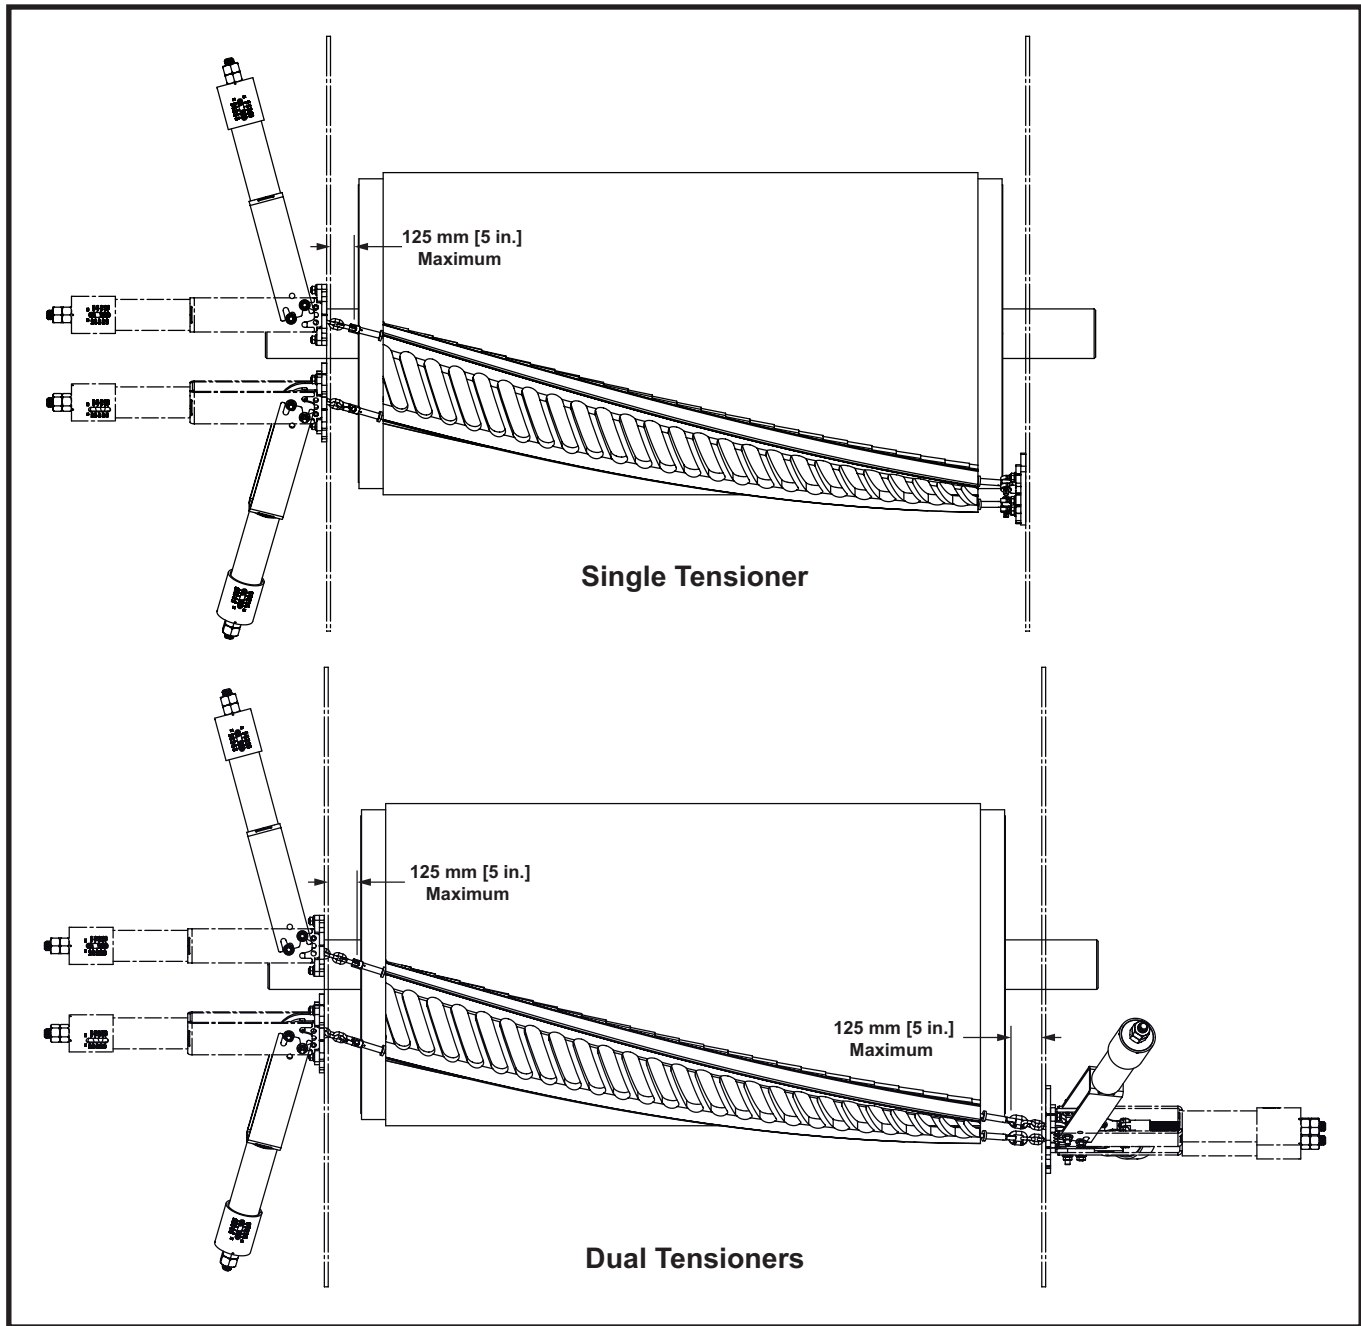

Figure 4. Installations with Wide Chute Walls
- f. The distance between the cleaner and the chute wall should be minimized. Martin Engineering recommends keeping the distance to 125 mm (5 in.) maximum per side (see Figure 4). Excess chain or cable could result in vibration that could damage the belt or the cleaner. If necessary, build a sub-wall to support the tensioners in the proper position. Consult Martin Engineering for installation assistance if parameters fall outside of this range.